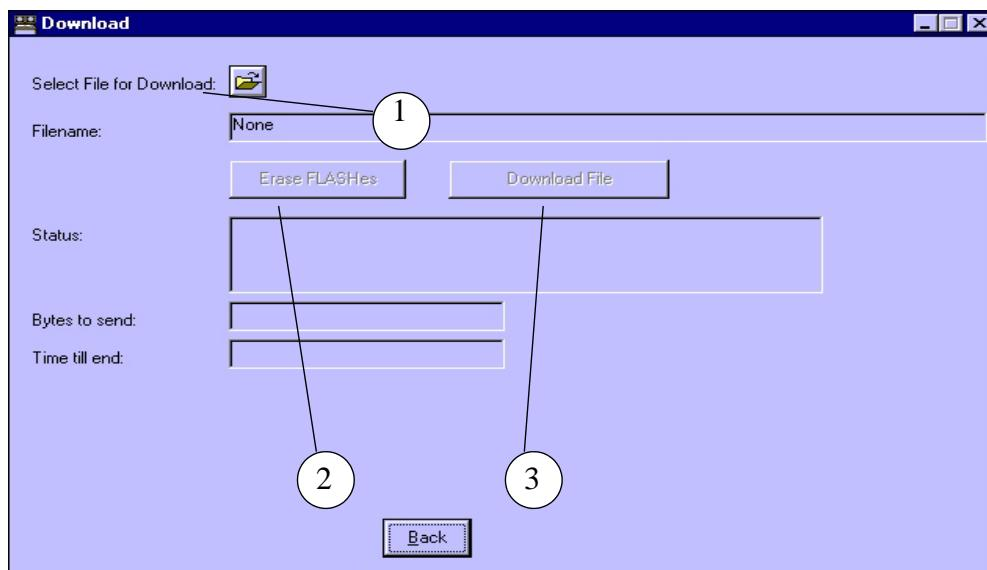

Fig. 4
- Click on the "Select file for Download:" button (1/Fig. 4).
- Then "Erase FLASHes" (2/Fig. 4).